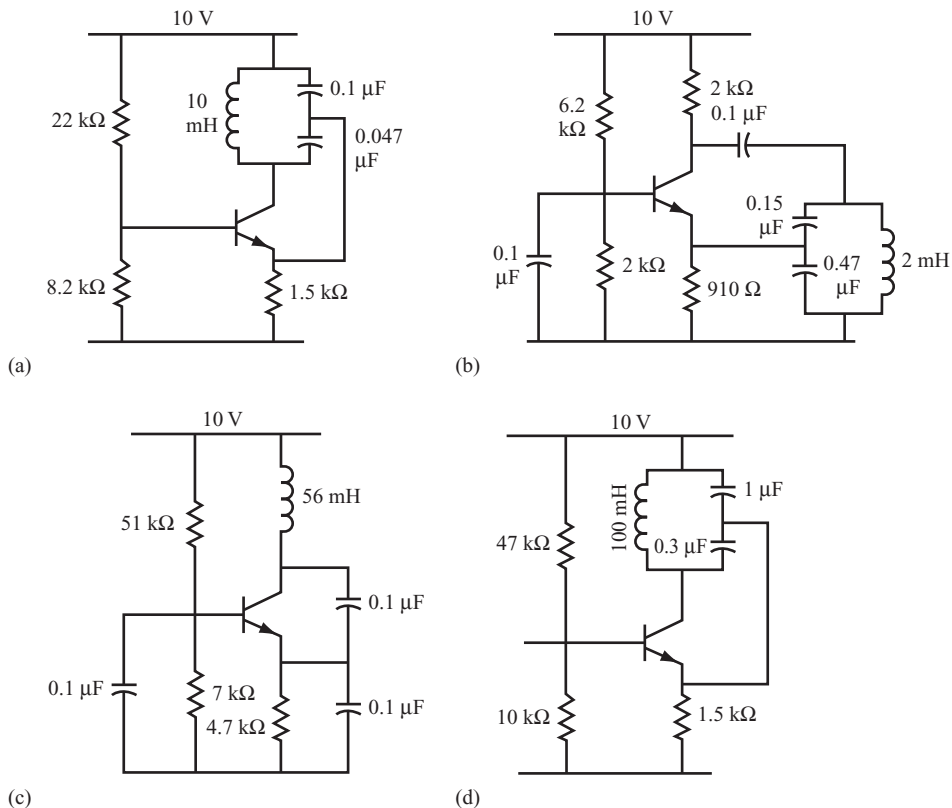

FIGURE 9.39
**35** Figure 9.39 shows several other oscillator circuits. Calculate the expected output frequency for each circuit and build as many as you want. Check the measured oscillator output frequency against the calculated values for each circuit you build.